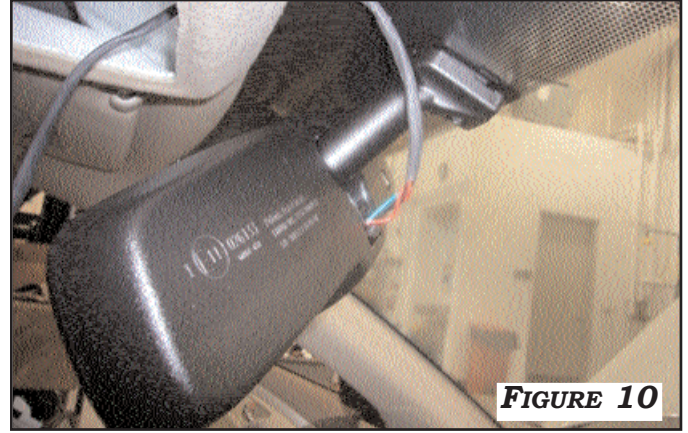

FIGURE 10
1. MOUNT REARSIGHT MIRROR ON EXISTING WINDSHIELD LUG AND TIGHTEN SCREW. **FIGURE 10**